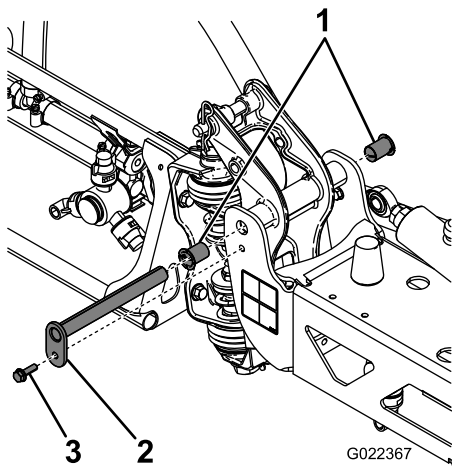

Figure 59
3. With the weight of the boom supported, remove the bolt and nut securing the pivot pin to the boom assembly (Figure 59).
4. Remove the bolt and nut that secure the pivot pin, and remove the pin (Figure 59).
6. Remove and inspect the nylon bushings from the front and back sides of the pivot bracket (Figure 59).
7. Place a small amount of oil on the nylon bushings, and install them into pivot bracket (Figure 59).
8. Install the boom and pivot bracket assembly into the center frame, aligning the holes (Figure 59).